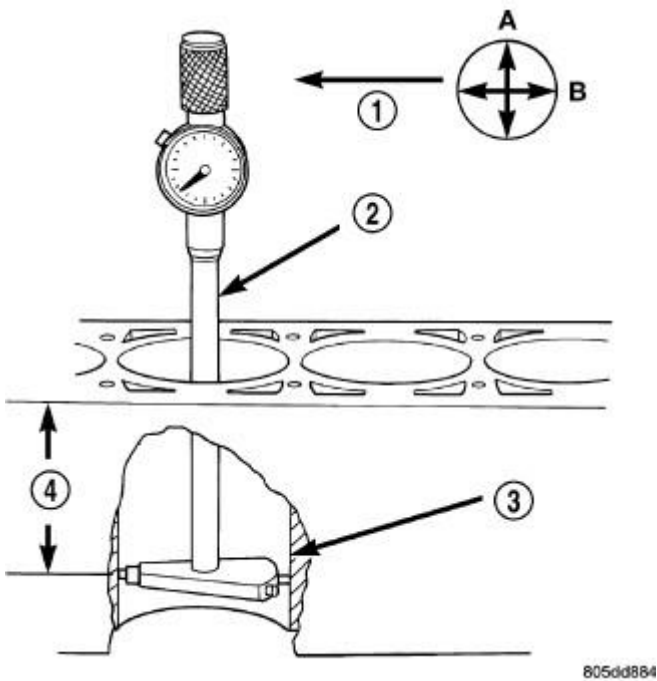

Fig. 106: Measuring Cylinder Bore Diameter
1. To correctly select the proper size piston, a cylinder bore gauge (2), capable of reading in 0.003 mm (.0001 in.) INCREMENTS is required. Refer to **Fig. 106**. If a bore gauge is not available, do not use an inside micrometer.
2. Measure the inside diameter of the cylinder bore (3) at a point 38.0 mm (1.5 inches) below top of bore. Start perpendicular (across or at 90 degrees) to the axis of the crankshaft at point A and then take an additional bore reading 90 degrees to that at point B.